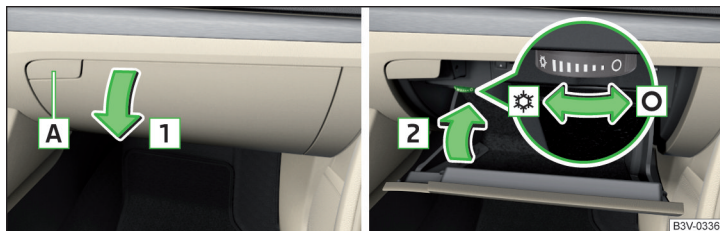

Fig. 119 Open storage compartment / close storage compartment and open air supply
- To open, press the -- button. The cover folds in the direction of arrow **1** » Fig. 119.
- To open, turn the rotary switch until it stops in the position ⚙️ » Fig. 119.